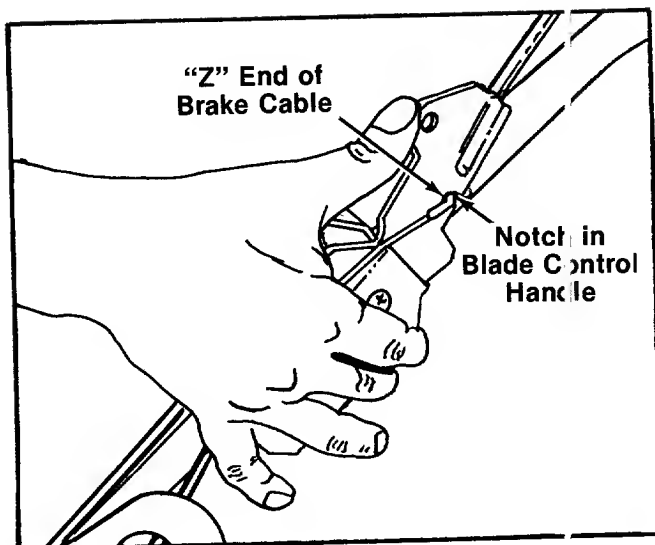

FIGURE 7.
- a. Hook the "Z" end of the cable into notch provided in the blade control handle. See figure 7.
1. Loosen, but do not remove, screw securing throttle control wire assembly at engine. See figure 7.